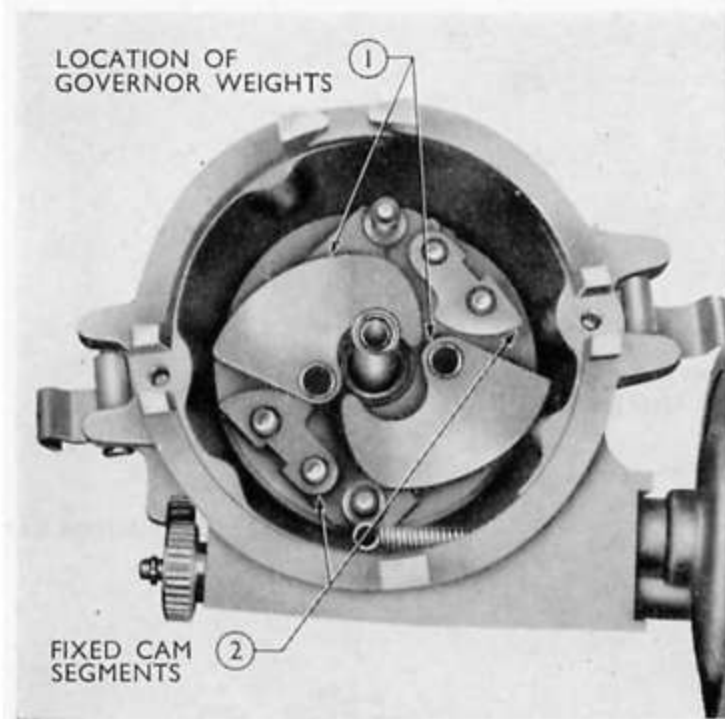

Fig. 26
5. Locate the governor weights on the action plate with the flat sides abutting the fixed cam segments and the cut-away portions nearest the shaft (see Fig. 26).